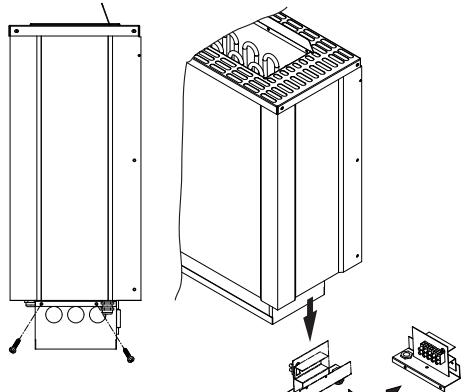

Fig. 3
2. In order to connect the power supply cable first undo both screws as shown in fig. 3 and pull the terminal block downwards (fig. 3a).